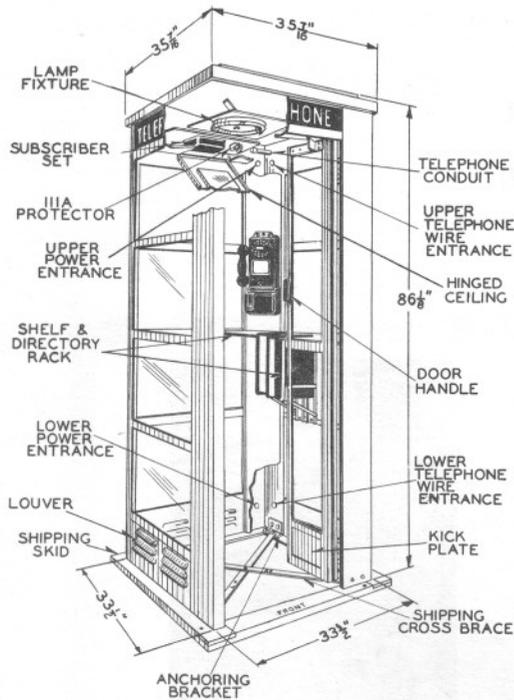

Fig. 2 — KS-14611, List 2 Booth
2.12 The list 2 booth is equipped with a flush-type ceiling which houses the light fixture, the protector, and the subscriber set (see Fig. 2).